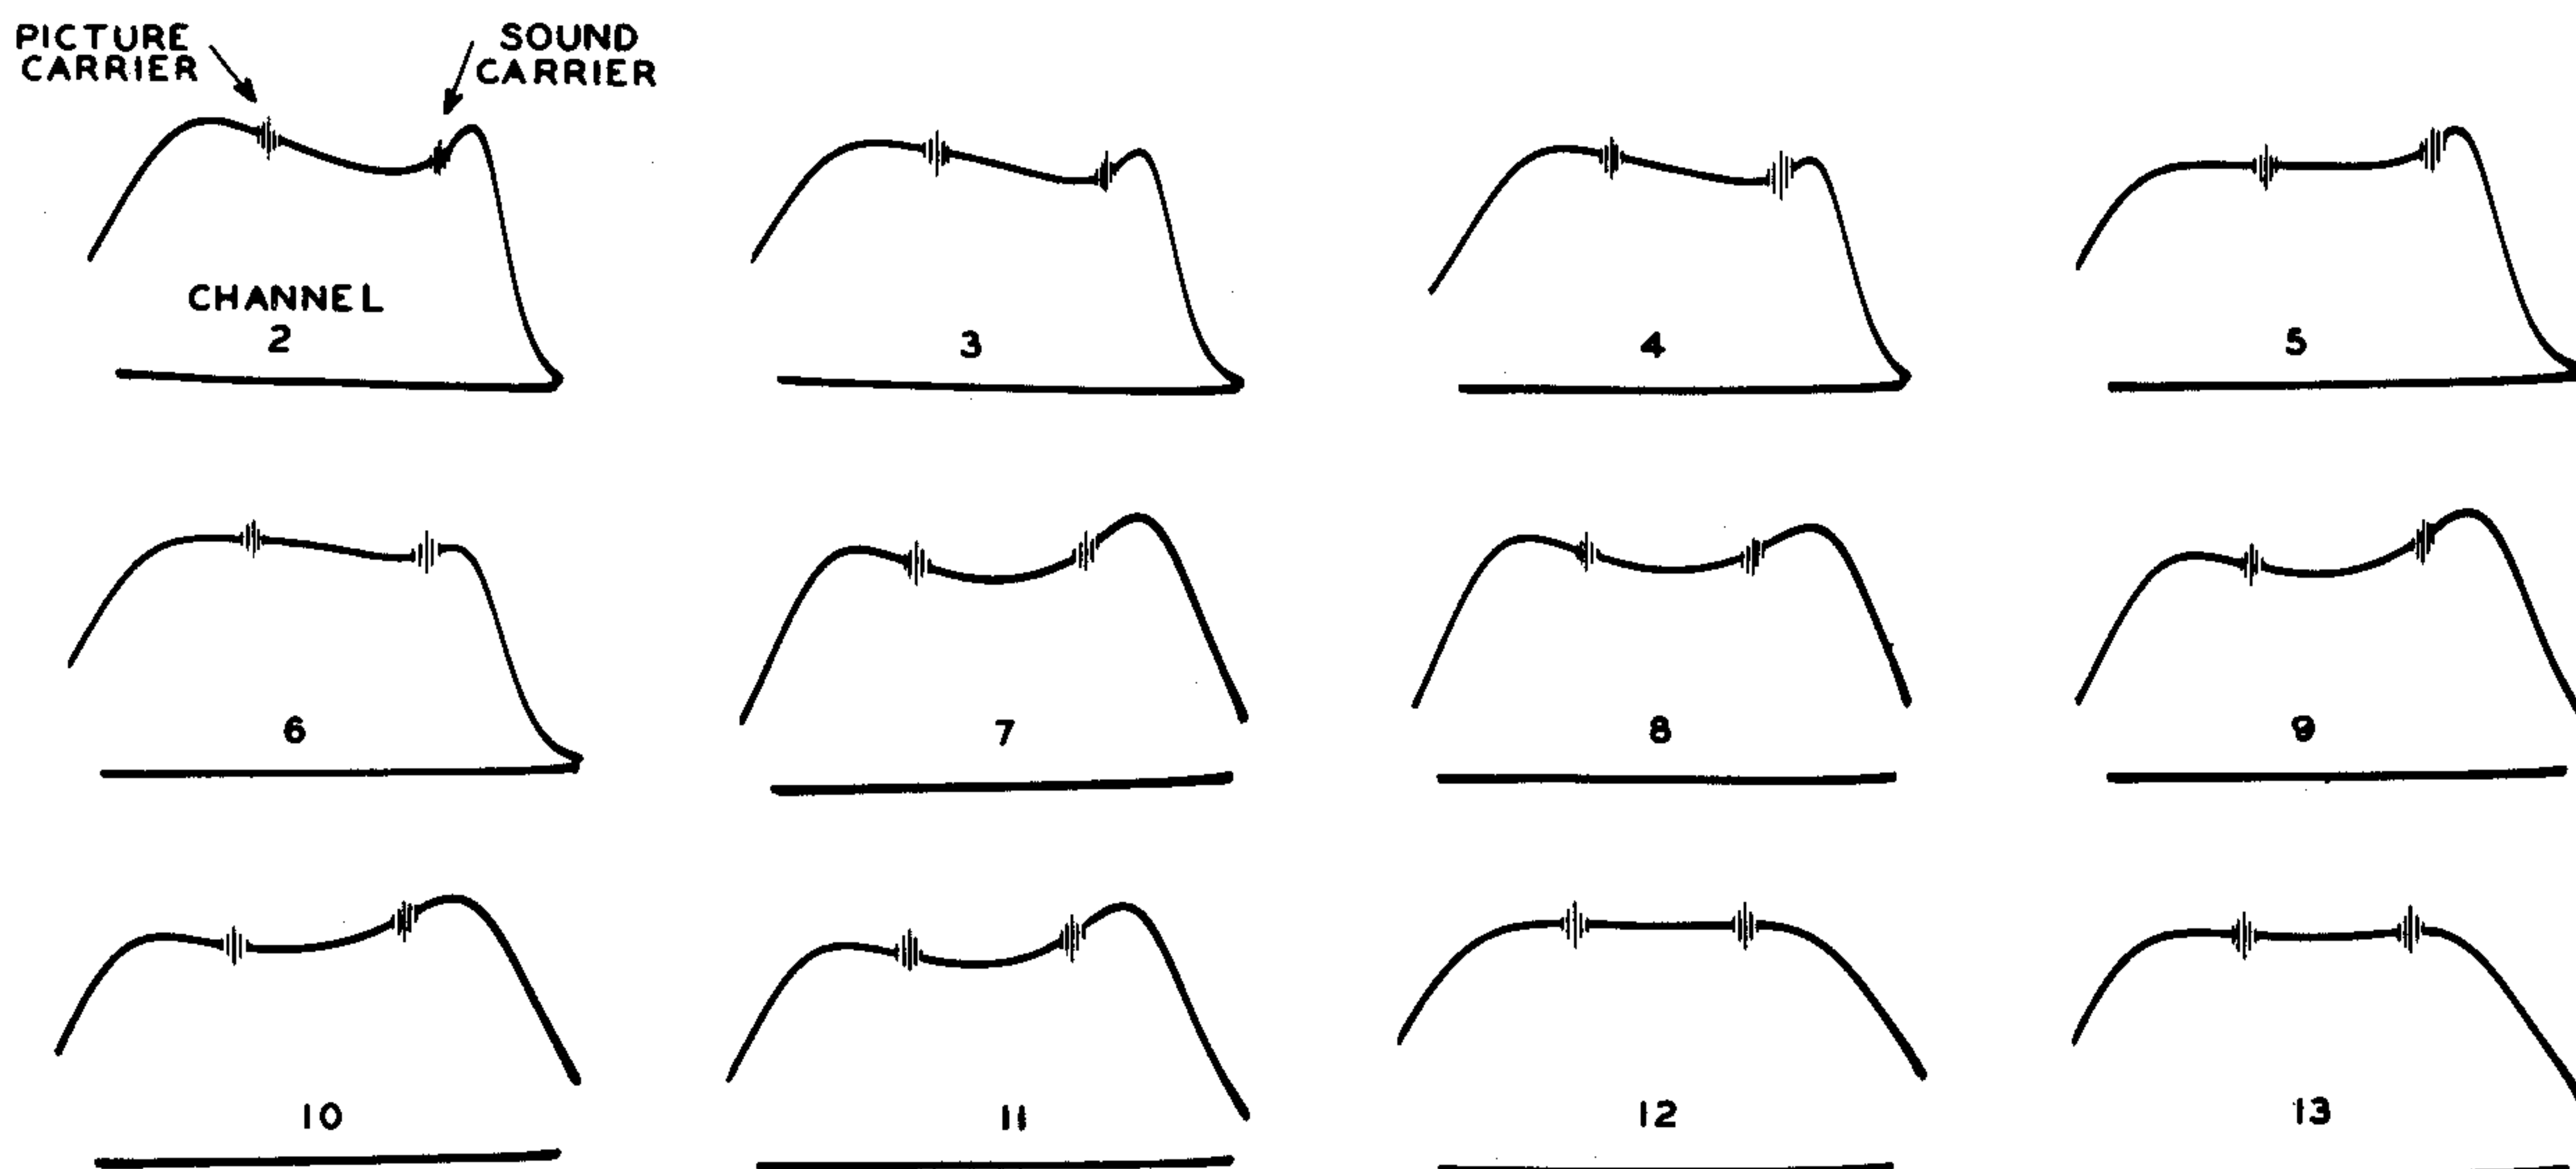

Figure 4. RF Response of Channels 2-13
6. The picture-carrier and sound-carrier pips from the television calibrator should appear within the flat-topped portion of the response curve of each channel, at points indicated in Figure 4.